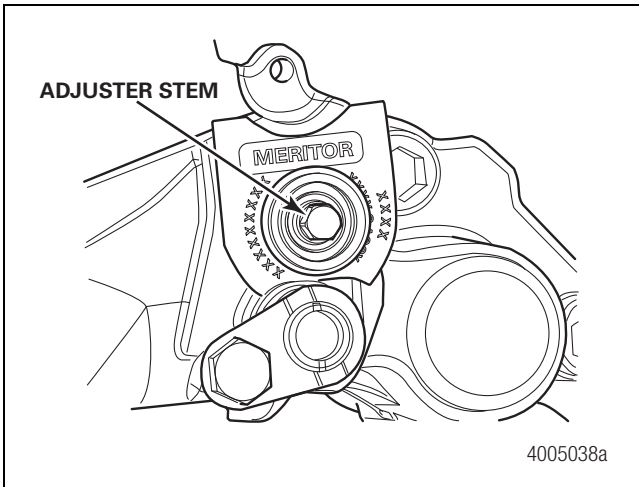
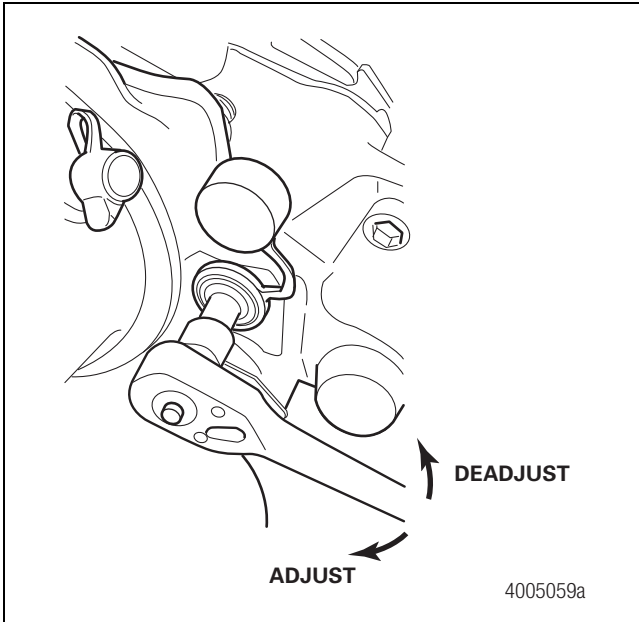

Figure 4.2
Figure 4.3
2. Use a 10 mm wrench to deadadjust the brake. Rotate the adjuster stem COUNTERCLOCKWISE until you feel the adjuster stem stop. Deadadjustment requires more force than adjustment. Do not exceed 30 lb-ft (40 N•m) in either direction. Figure 4.2 and Figure 4.3.